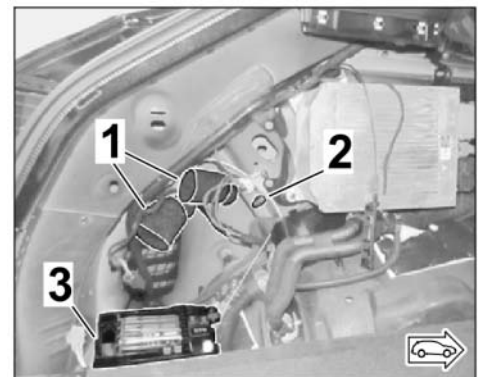

Figure 2
- 1.4 Expose connector B (6-pin)/connector C (10-pin) on trailer hitch preparation near the fuse box in the luggage compartment (⇒ *Figure 2*).